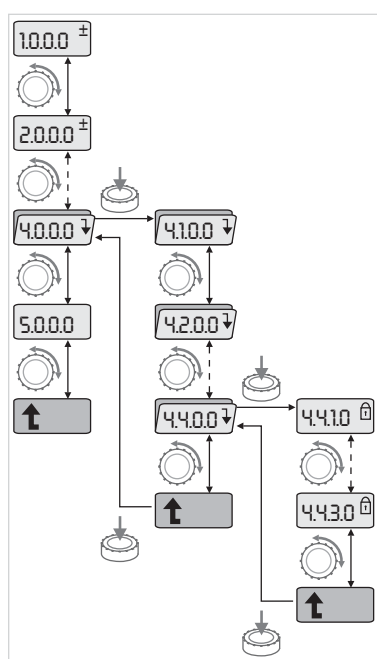

Fig. 41: Navigation example
- Carry out general menu navigation as follows (for an example, see Fig. 41):